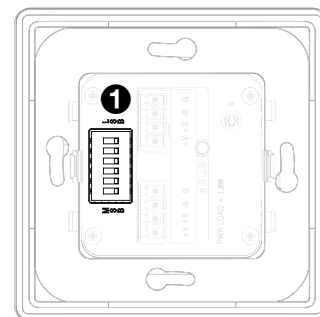
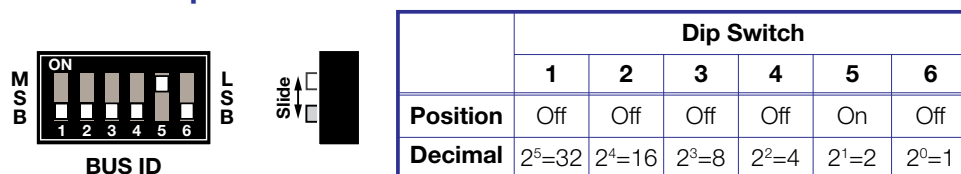

Figure 9. EU and MK eBUS Panel DIP Switches
Figure 10. eBUS ID Setup
Up to eight devices can be connected to one control processor. In order for the control processor to be successfully configured, each device connected to the same control processor must have a unique six-bit, eBUS ID, which is set with the DIP switch assembly on the rear panel of the EBP (figure 9, ❶). If two or more modules have the same eBUS ID, address conflicts may cause one or more of the panels to not be recognized by the IPCP Pro control processor.
Add the decimal numbers for each of the DIP switches that are set to On to obtain the address of the device. In figure 10, only DIP switch 5 is on and the rest are off, which means the address for the device in figure 9 is $0+0+0+0+2+0 = 2$.